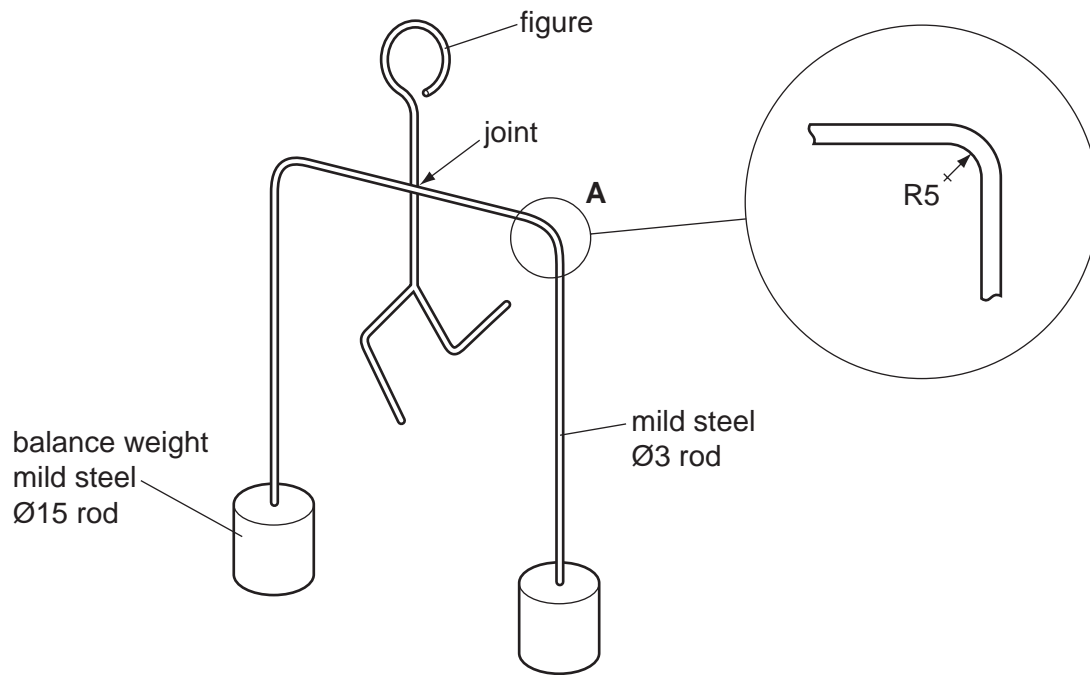

Fig. 12
- 12 Fig. 12 shows a balancing toy made from mild steel. The stand on which the toy will balance is not shown.
- (f) The joint in Fig. 12 will be made by brazing.